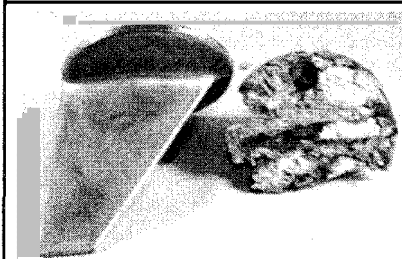

Fig. 83 Extensive corrosion of an anode suggests a problem or a complete disregard for maintenance
◆ See Figure 83
- ◆ See Figures 83, 84, 85, 86, 87 and 88